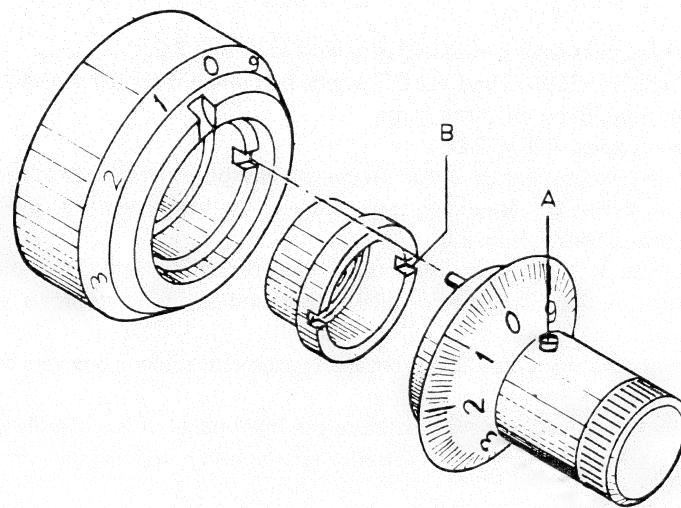

Fig. 3.4 Removing the delay-time multiplier knob
- The delay-time multiplier knob (Fig. 3.4) can be removed in the following way: